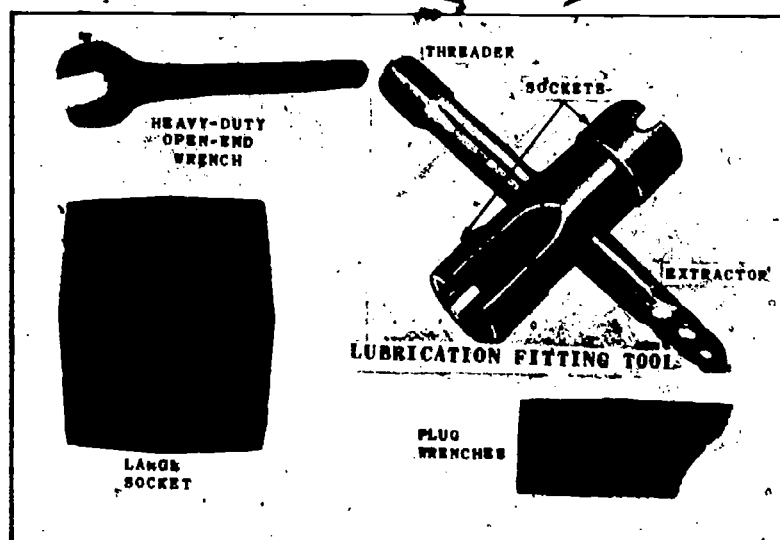

Fig 1-3. Special wrenches for servicing equipment.
- (3) **Wrenches (fig 1-3).** Special wrenches are designed to remove broken grease fittings and install new ones. A plug wrench that will fit female square sockets is used to remove and install fill, level, and drain plugs. Large Allen wrenches are used for some plugs and the large sockets are used for adjusting wheel bearings.